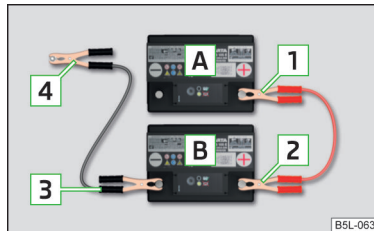

Fig. 205
- Attach clamp **1** to the positive terminal of the discharged battery **A** » Fig. 205 .